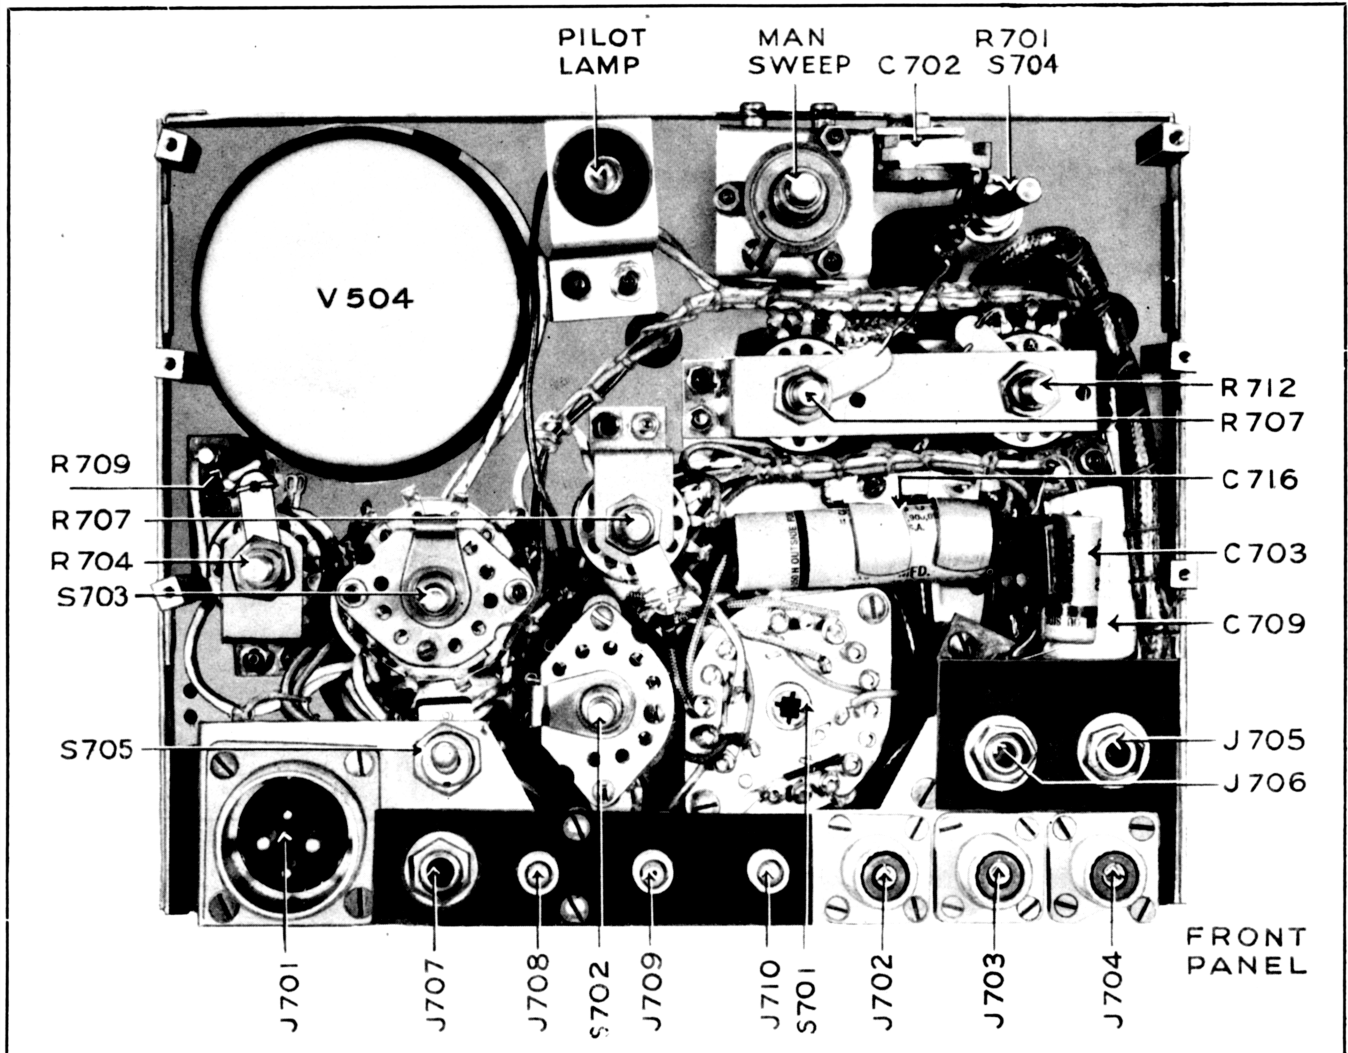

Figure 4-7. Panoramic Adapter AN/APA-10—Front Panel Sub-Assembly
e. The front panel is removable for access to sub-panel wiring and components after removing the knobs and retaining screws. (See fig. 4-7.)